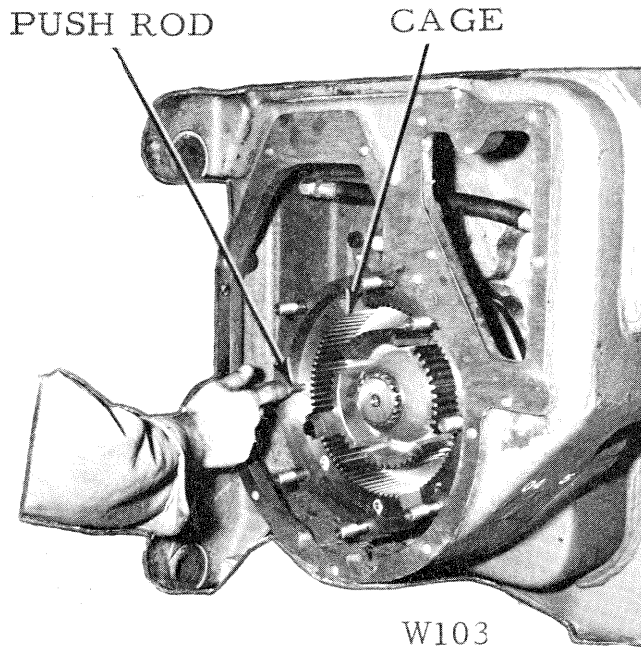

Figure 12
NOTE: As a further check measure the distance from the end of the spools to front of the valve, with the spool in various positions. Fig. 12. In "reverse" the end of the selector spool should be $2\frac{1}{2}$ inches from the front of the valve; in "forward" it should be $1\frac{19}{32}$ inches. In brake on position the end of the inching spool should be $2\frac{3}{16}$ inches; in brake released position it should be $1\frac{23}{32}$ inches.
6. Place the cage next to the pressure plate. Lubricate the push rods and push them into the guide holes in the cage. Fig. 12.